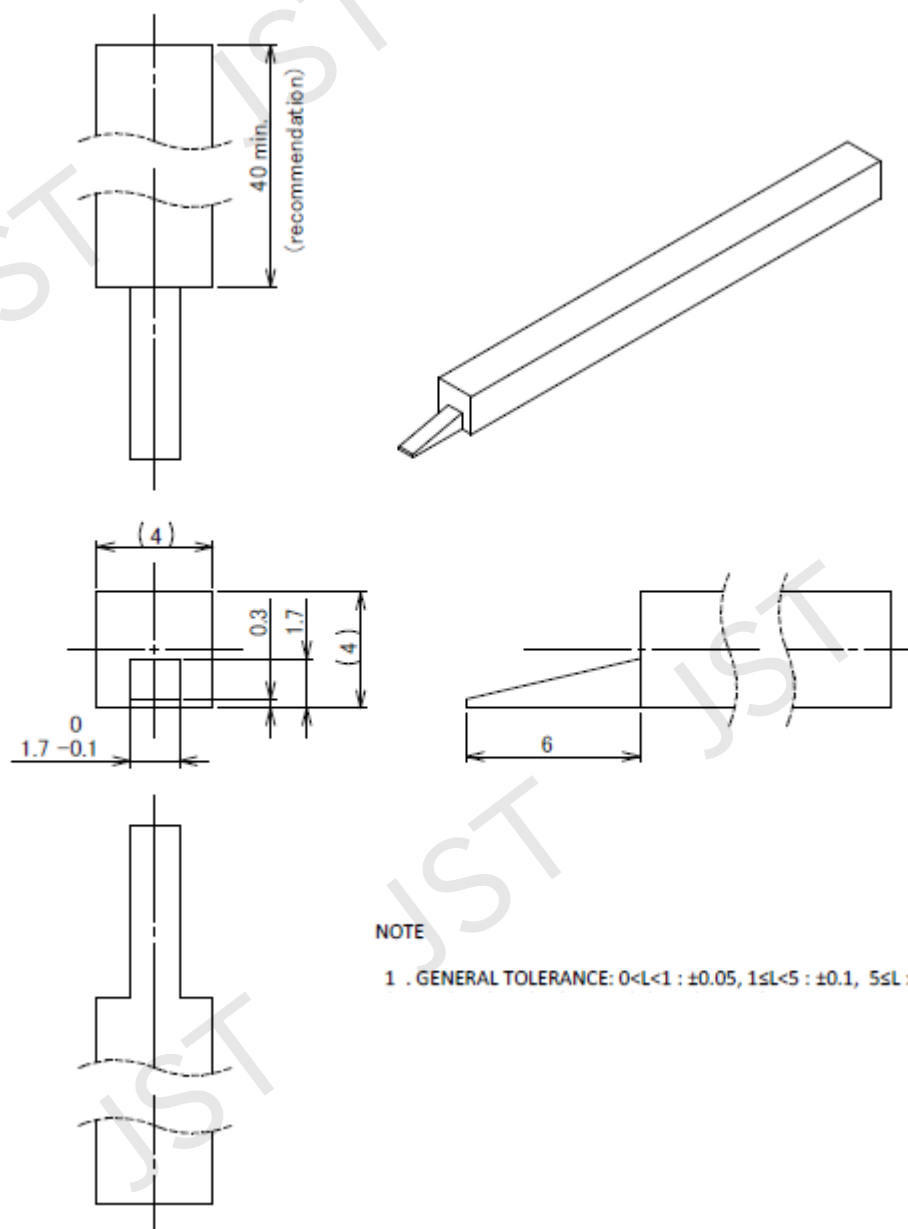
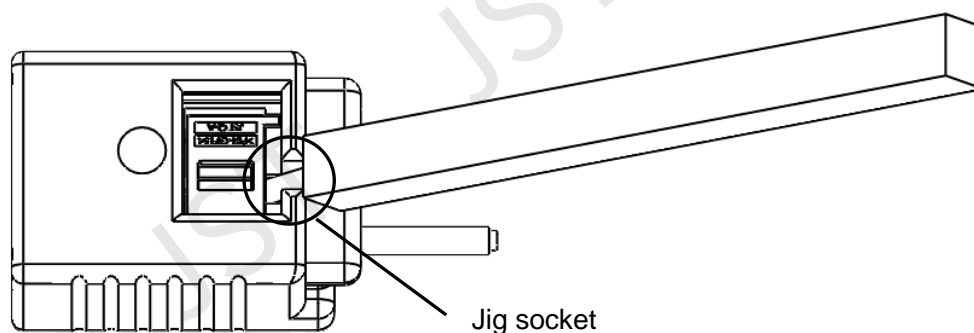
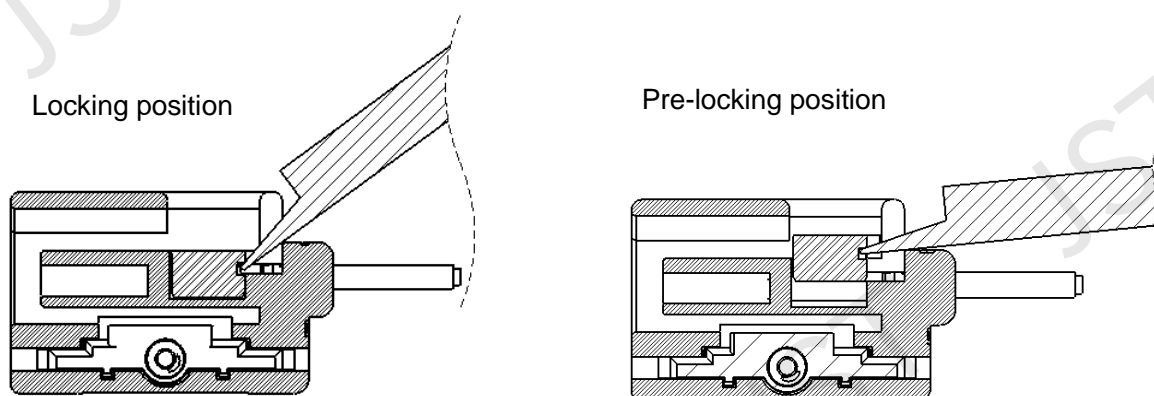

Fig.12: Female retainer release jig
Fig. 13
Fig. 14
Note: If the retainer has been inserted in the locking position, the female terminal cannot be inserted. Return the retainer to the pre-locking position by using an jig (Fig.12) (Refer to item 6-6 Releasing the retainer.)
Insert the jig (Fig.12) into the circled area as shown in Fig.13, and raise the retainer due to leverage until it snaps out of position. (Fig.14)